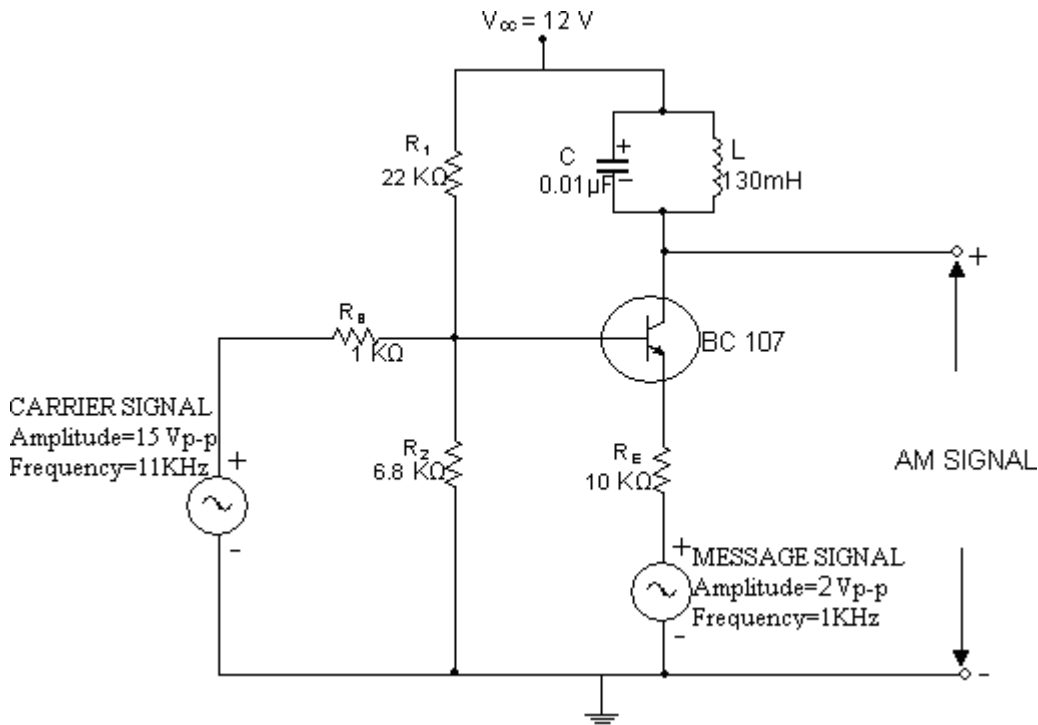

Fig.1.AM modulator
1. The circuits connected as per the circuit diagram shown in Fig.1.